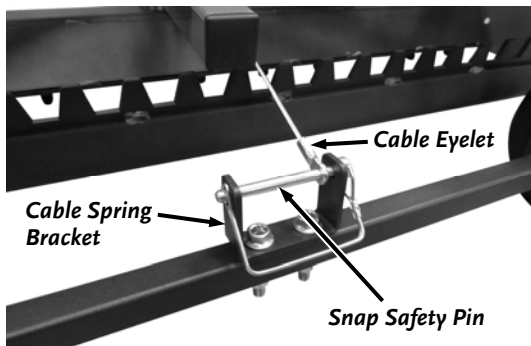

Figure 24
32. Adjust the front Jam Nut that is still on the Threaded Rod until the Eyelet at the eyelet end of the Cable can be secured to the Cable Spring Bracket with the 5/16" X 3" Snap Safety Pin (**Figure 24**).